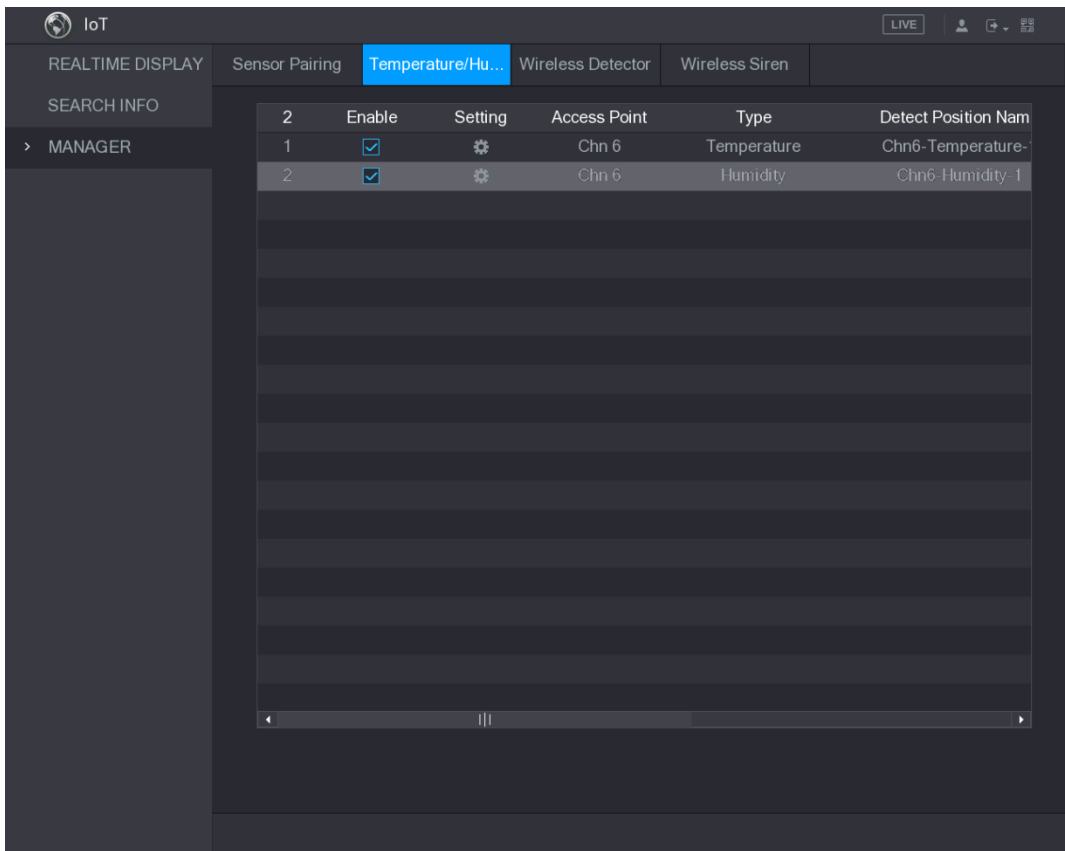

Figure 5-175
**Step 2** Select the **Enable** check boxes to enable IoT function. See Figure 5-175.